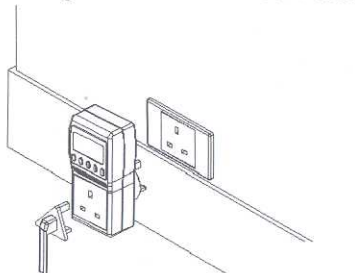

Figure 3 PL09564 Installation Diagram
1. Installation: (refer to figure 3)